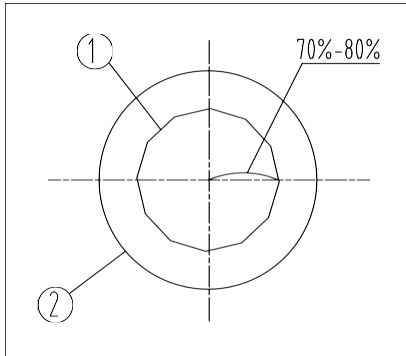

Fig.14
2. Adjust condenser adjustment knob③ in a clockwise direction, raise the condenser to the top to allow the illumination to fill the field of view. If the specimen contrast of your sample is low, it is advised to adjust the condenser aperture diaphragm to be 70%-80% of the N.A. of objective. Rotate the aperture diaphragm adjustment ring④, align the arrow with the magnification position on the condenser⑤. The eyepiece can be taken off if necessary to observe from the eyetube. Adjust the aperture diaphragm adjustment ring④ until it matches the figure as shown in Fig.14, to adjust the proportion (see Fig. 14&15, ① is the image of aperture diaphragm, ② is the edge of objective).